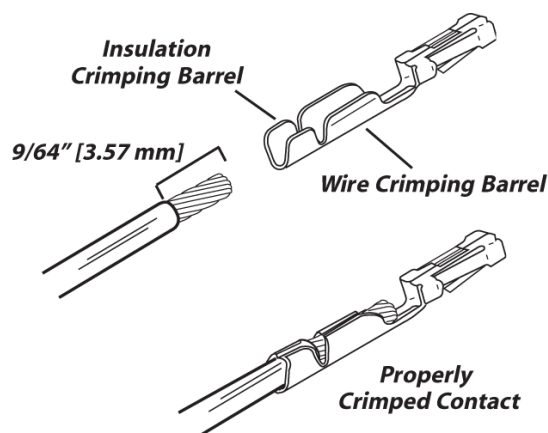

Figure 2-10. AMP MOD IV Contact Crimp Detail
3. Cover the cut end of the jacket with 0.75 inch [19.05 millimeters] of heat-shrink tubing (Figure 2-10). Shrink this tubing, centered on the jacket cut end, to hold the drain wire sleeving in place.